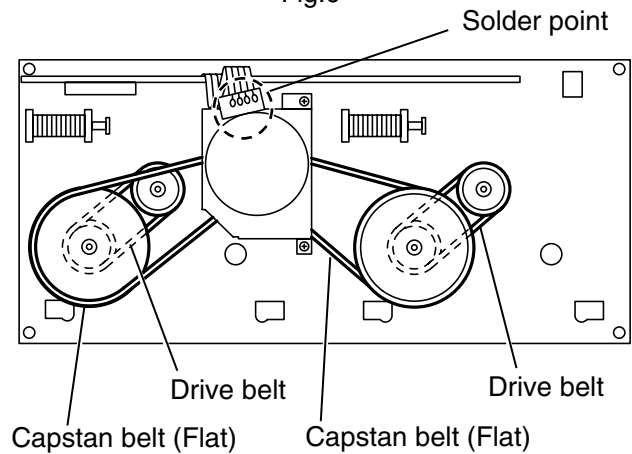

Fig.7
■ **Removing the motor. (Fig.7 to 9)**